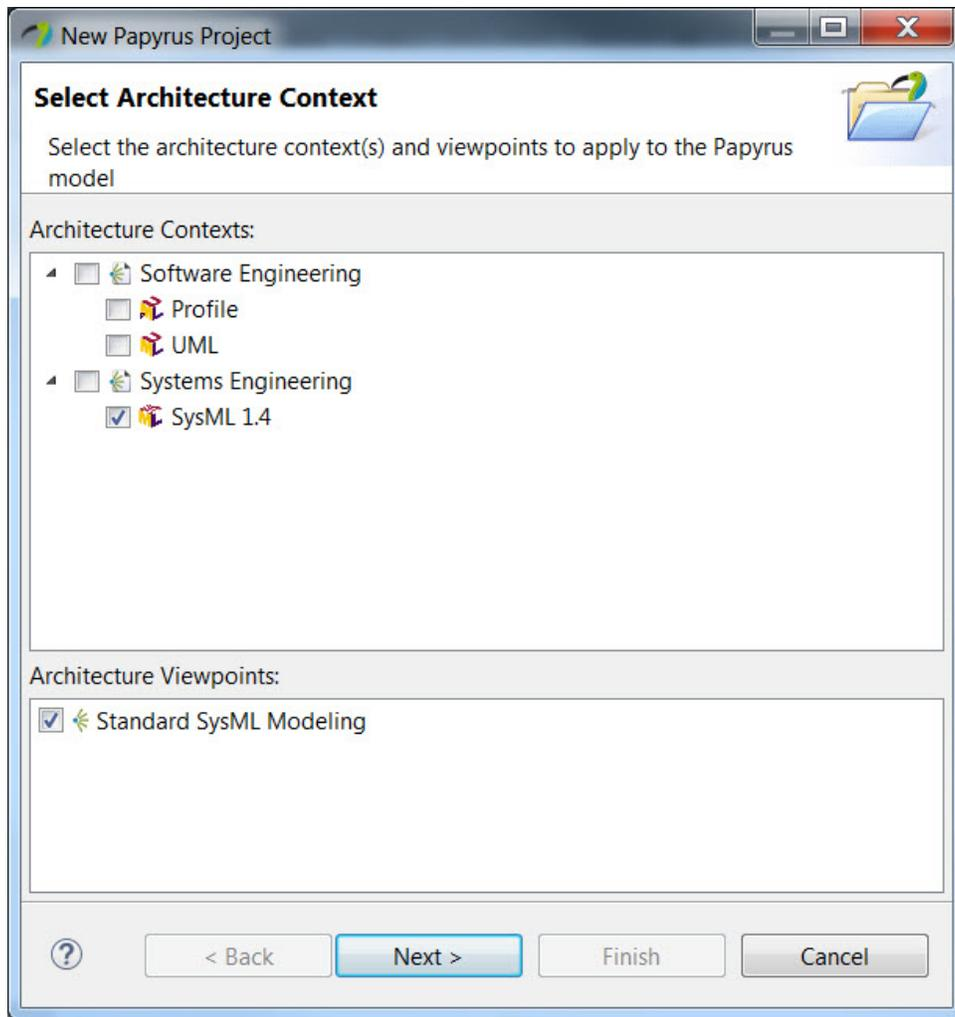
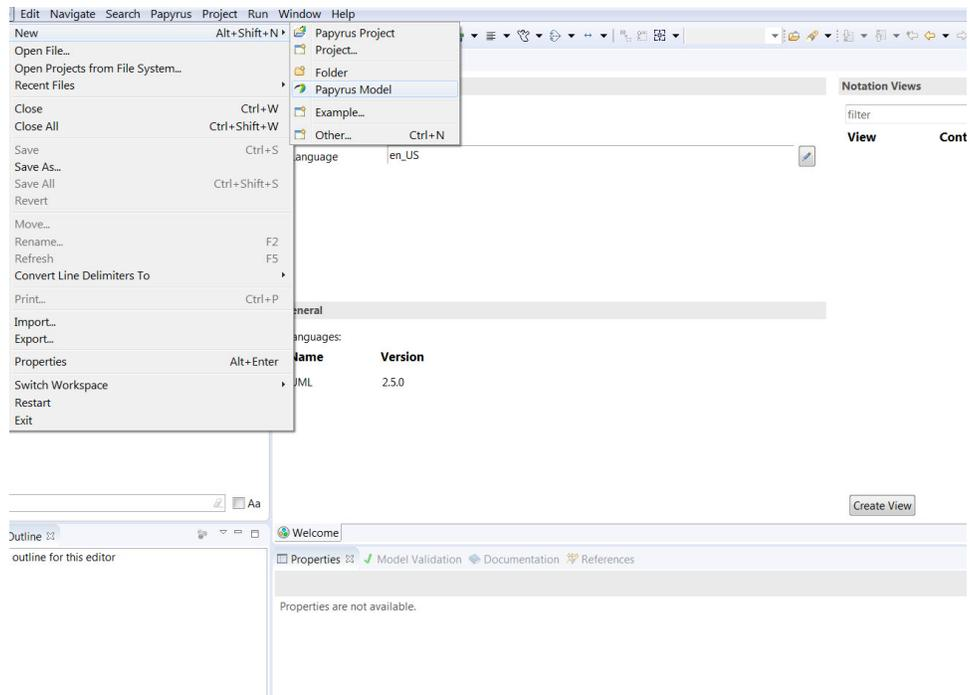

Figure 2: Select Architecture Context
Figure 4: Create New Model
2. The *Select Architecture Context* dialog will then appear. Ensure that the *SysML 1.4* checkbox is selected and then select **Next** (see figure 2).
- Now we will create our model for the vehicle climate control system problem space. Create a new *Papyrus* model by selecting **File > New > Papyrus Model** (see figure 4). Ensure that the *SysML 1.4* checkbox is selected when the *Select Architecture Context* dialog appears and then select **Next** (see figure 2).